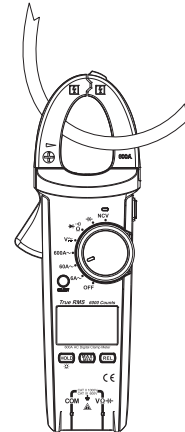

Figure 3
1. AC Current Measurement (see Figure 3)